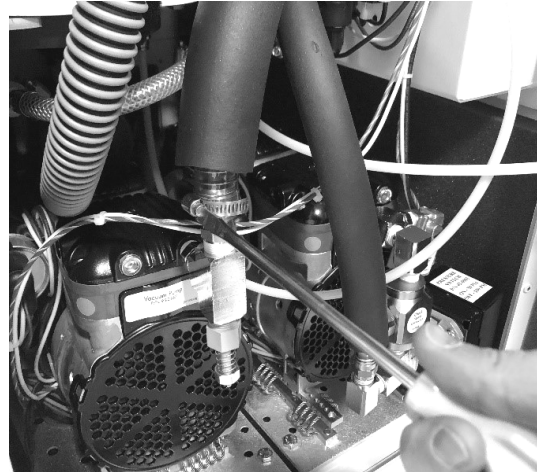

Fig. 2
3. To gain access to the purge tubing assembly, first remove the steel-reinforced vacuum pump tubing by unscrewing the tubing clamp and pulling the tubing from the brass fitting. (Fig 2)